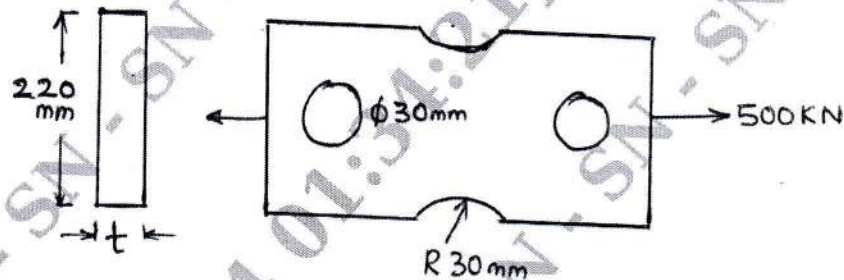

Fig. Q2 (c)
c. A bar of rectangular section as shown in Fig. Q2 (c) is subjected to an axial pull of 500 KN. Calculate its thickness if allowable tensile stress is 200 MPa. (12 Marks)